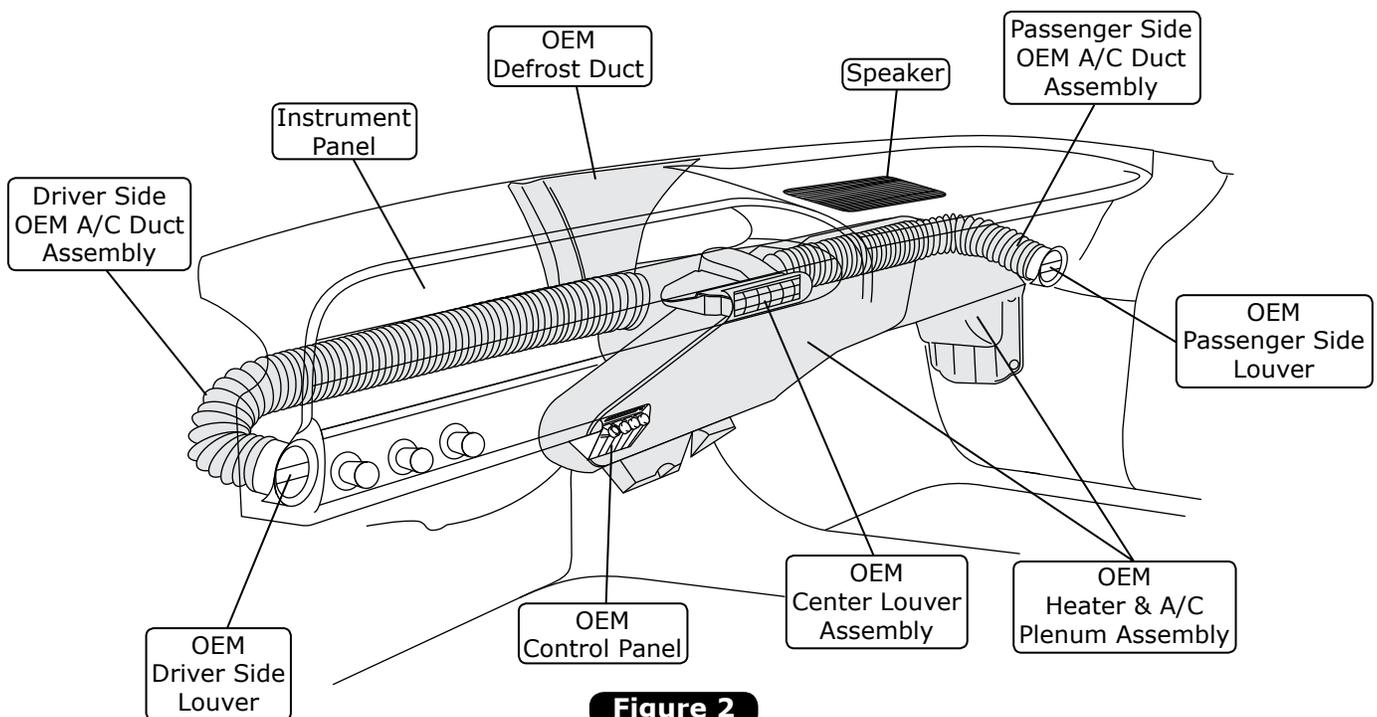

Figure 2
1. Remove the instrument panel (retain) (See Figure 2, below).
2. Remove the passenger side OEM A/C duct assembly (discard) (See Figure 2, below).
3. Remove the driver side OEM A/C duct assembly (discard) (See Figure 2, below).
4. Remove the OEM center louver assembly (retain) (See Figure 2, below).
5. Remove the OEM control panel assembly (retain) (See Figure 2, below).
6. Remove the OEM heater & A/C plenum assembly (discard) (See Figure 2, below).
10. Remove the OEM defrost duct assembly (discard) (See Figures 2 & 3, below).